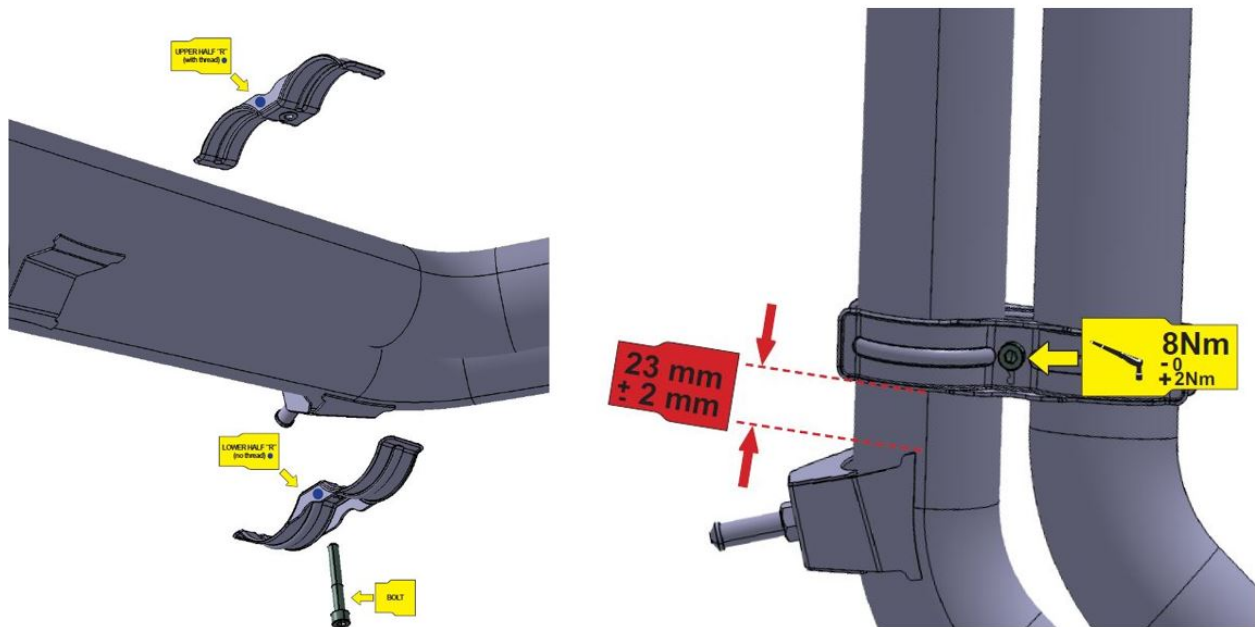

Figure 2 – Rear clamp positioning
- Align the bracket 23 mm ± 2 mm from point as shown in figure 2.